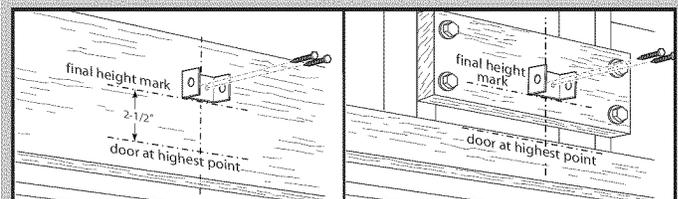

FIG. 2-3 Header bracket mounting (on header & above header).
NOTE: If header bracket location needs to be above header for garage door opening, you need to add a "mounting surface." A 2" x 6" board securely attached (board and fasteners not included) to wall studs on either side of your mark is sufficient (Fig. 2-3).
- Hold header bracket against wall (**Fig. 2-3**).
- Fasten header bracket with 2 lag screws (provided) (**Fig. 2-3**).